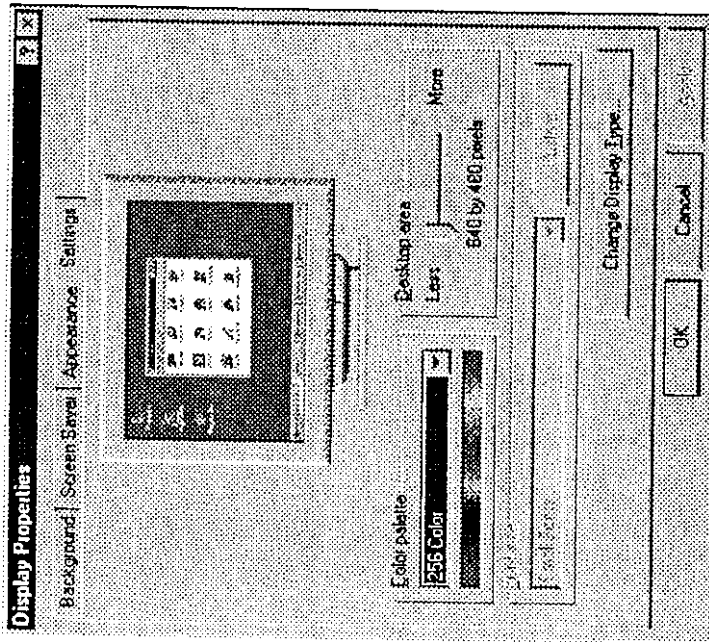

Figure 3-2.
3. SELECT the "Display" icon and then SELECT the "Settings" page (refer to Figure 3-2).